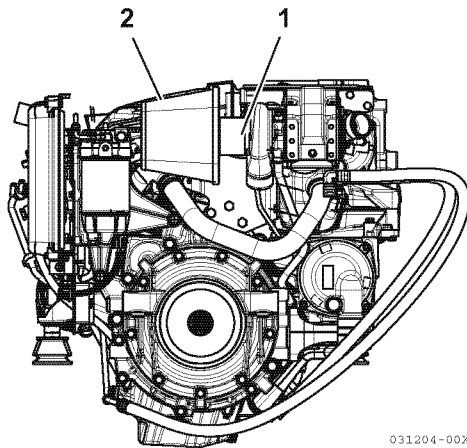

Figure 4-9
3. Remove clamp (1, **Figure 4-9**).
4. Remove air filter (2, **Figure 4-9**).